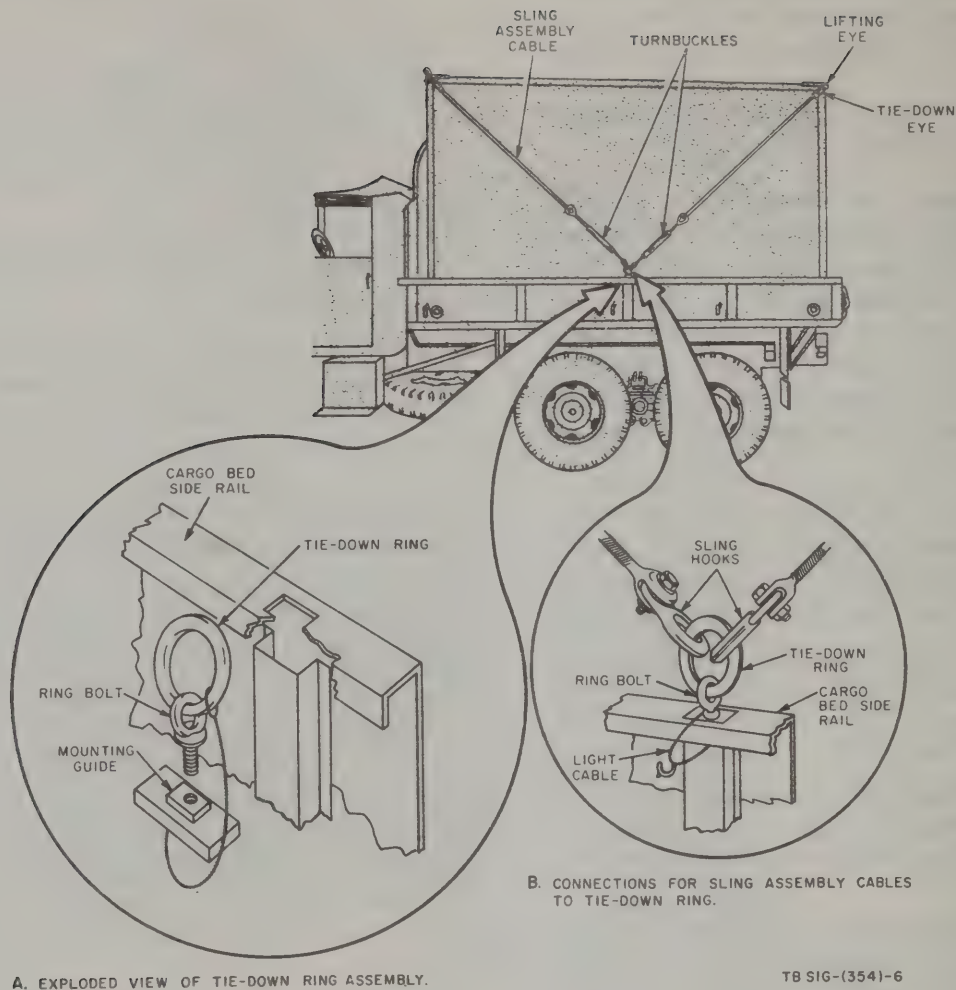

Figure 2-5. Securing AN/MRC-54(V) in truck.
- (4) Position a man at the free end of the 1/2-inch ropes to guide the shelter, back the truck slowly into position under the shelter, and slowly lower the shelter onto the truck.
- (5) Remove the lifting ring from the lifting hook and disassemble the lifting ring and the sling hooks. Remove the sling center hooks from the lifting eyes and the 1/2-inch ropes from the towing eyes. Raise and secure the truck tailgate.
- (6) Install the two tiedown ring assemblies (part of sling assembly) above the center support of the two cargo bedside rails of the truck (A, fig. 2-5).
- (7) At each side of the shelter, use the hook at the end farthest from the turnbuckle to hook each sling assembly to a tiedown eye of the shelter.
Secure the sling hooks at the opposite end of the cables to the tiedown ring (B, fig. 2-5).